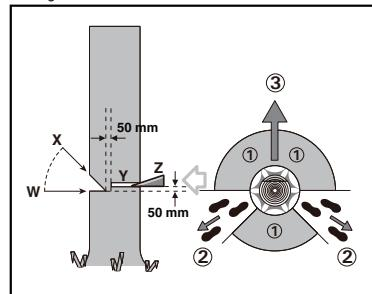

Figure 1
An escape path should be planned and cleared as necessary before cuts are started. The escape path should extend back and diagonally to the rear of the expected line of fall as illustrated in Figure 1.
Make the notch  $\frac{1}{3}$  the diameter of the tree, perpendicular to the direction of falls as illustrated in Figure 1. Make the lower horizontal notching cut (W) first. This will help to avoid pinching either the saw chain or the guide bar when the second notch (X) is being made.
Make the felling back cut (Y) at least 50 mm higher than the horizontal notching cut as illustrated in Figure 1. Keep the felling back cut parallel to the horizontal notching cut. Make the felling back cut so enough wood is left to act as a hinge. The hinge wood keeps the tree from twisting and falling in the wrong direction. Do not cut through the hinge.